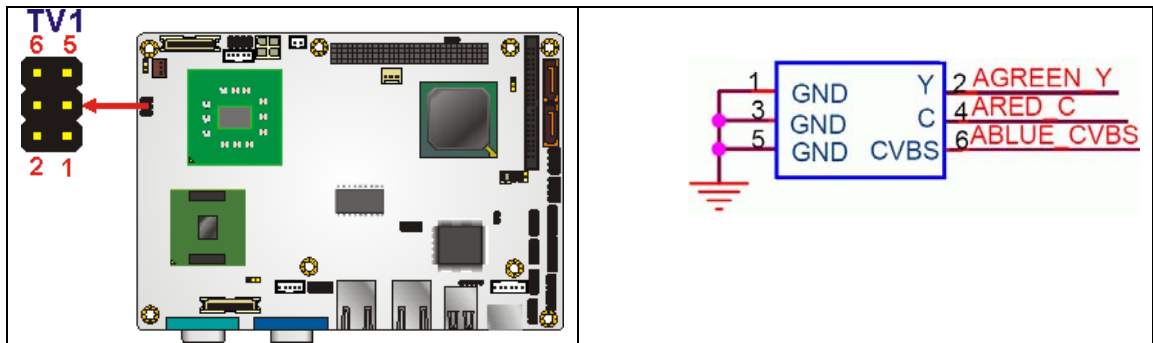

Figure 3-22: TV Connector Pinout Locations
- CN Location:** See Figure 3-22